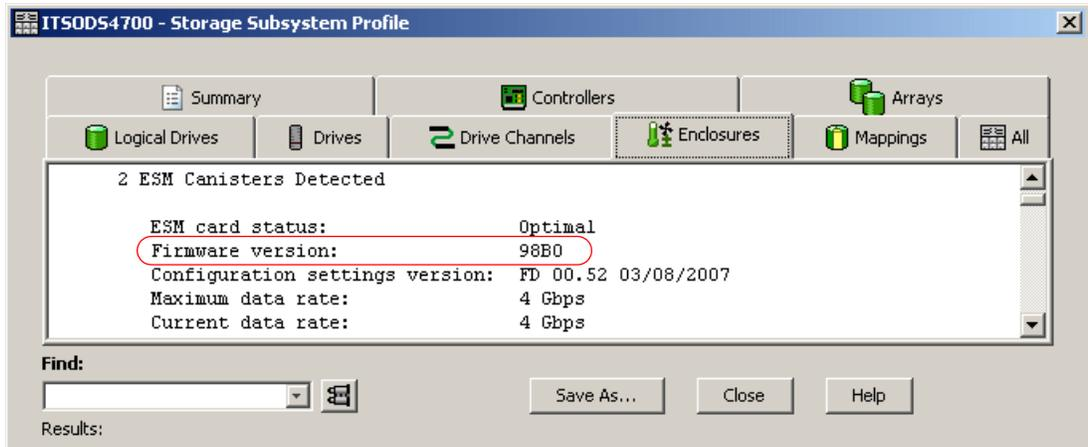

Figure 12-2 Viewing ESM firmware
- Click the **Enclosures** tab to see the Environmental Service Modules (ESM) current firmware level. As seen in Figure 12-2, you must use the scroll bar to show all of the ESM firmware (two per enclosure), as circled in red in Figure 12-2.